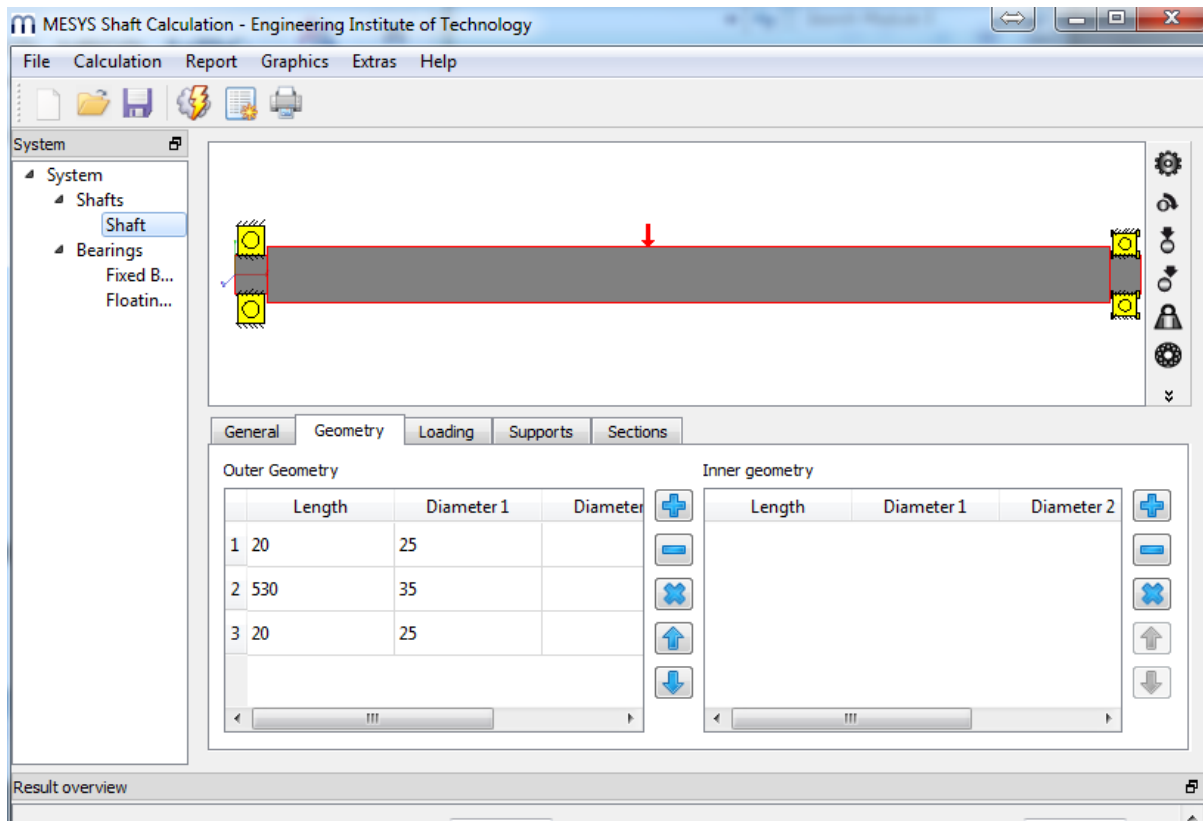

Figure 3
- See figure 3 for a shaft design example.